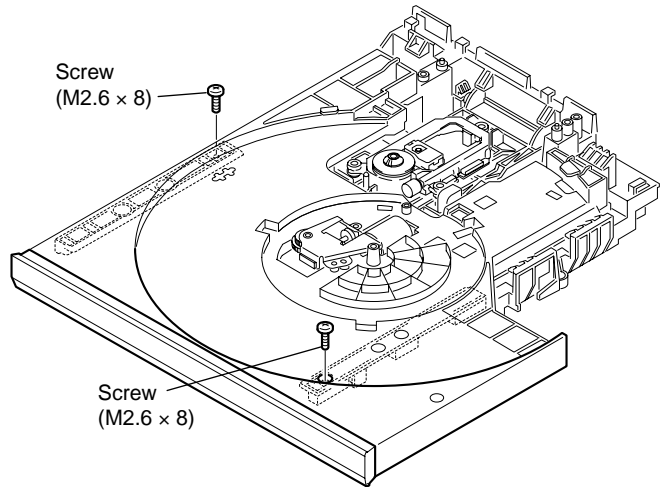

Fig. 3
- 1) Remove the two screws. (See Fig. 3)